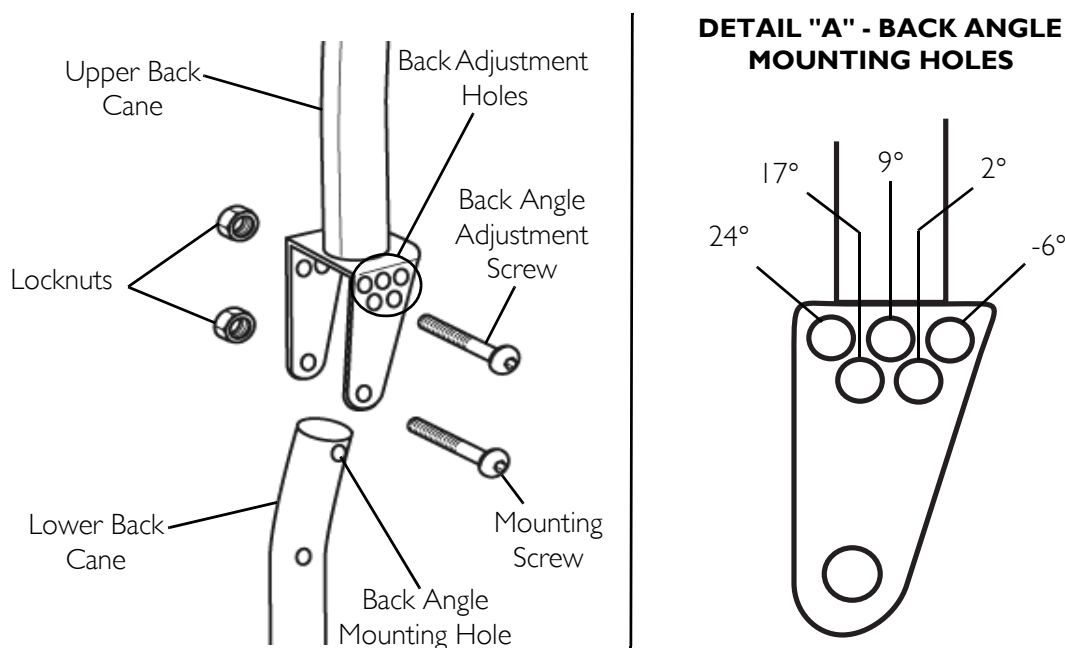

FIGURE 8.6 Adjusting the Back Angle
NOTE: For this procedure, refer to FIGURE 8.6 on page 45.
2. Reposition the back to the desired angle. Refer to Detail "A" of FIGURE 8.6.